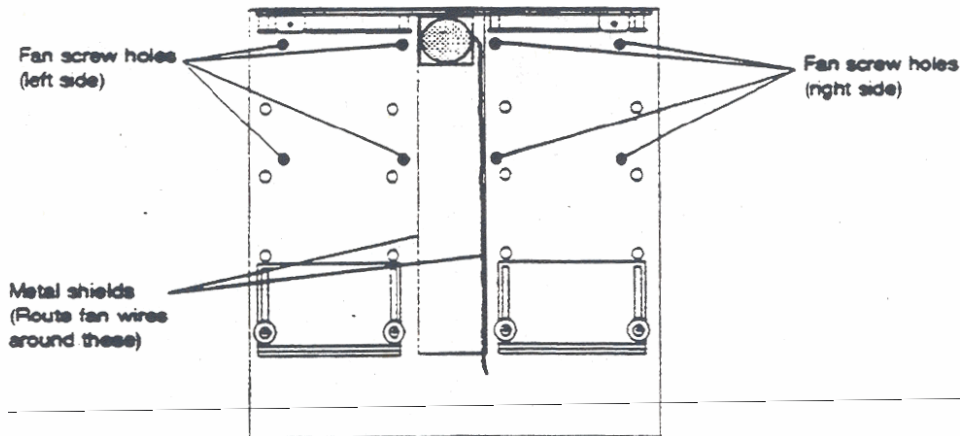

Figure 7-3. Auxiliary Fan Screw Hole Locations
4. If you are repositioning or reinstalling the auxiliary fan, place the four standoffs over the fan screw holes on the opposite side of the expansion tray. Figure 7-3 shows the location of the fan screw holes on each side of the expansion tray.